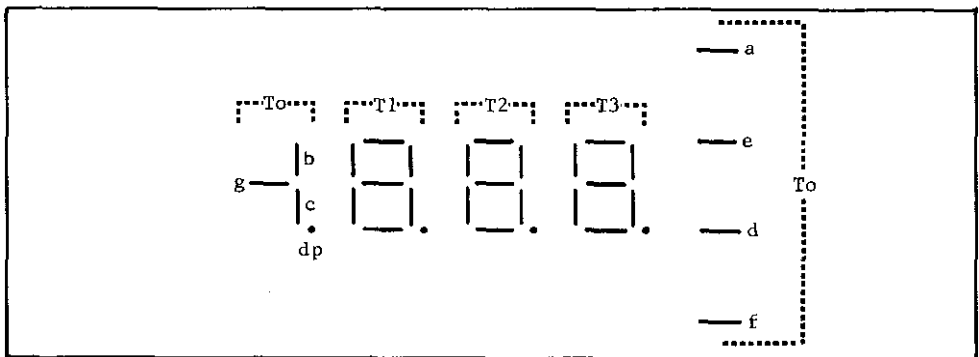

FIGURE 16. Identification of Multiplex Lines.
d. Multiplexing Circuit. The multiplexing circuit is also included in integrated circuit QA201. The digital display is controlled by the four multiplexing lines which turn on the cathodes of each seven segment readout. Three of the lines are used for each of the three digits. The T_0 line is used to indicate polarity, one, decimal point and the four FUNCTION bars. As a result, only 12 lines are required to operate the display. The multiplex lines are identified as T_0 , T_1 , T_2 , and T_3 as shown in Figure 16.